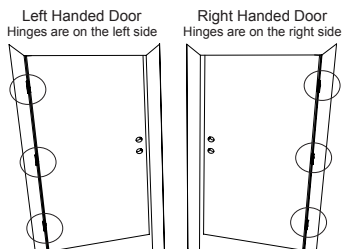

Figure 4b
- If the hinges are on the right your door is Right Handed (Figure 4b).